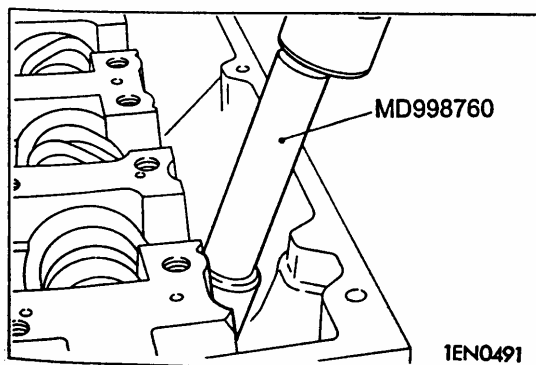

Fig.4-32
(1) THE INSTALLATION STEPS OF VALVE STEM SEAL
- b Install the valve stem seal with the special tool which is in the picture, see Fig.4-32.